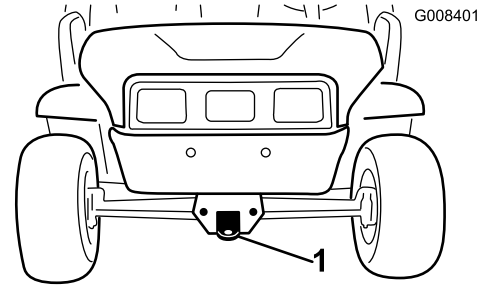
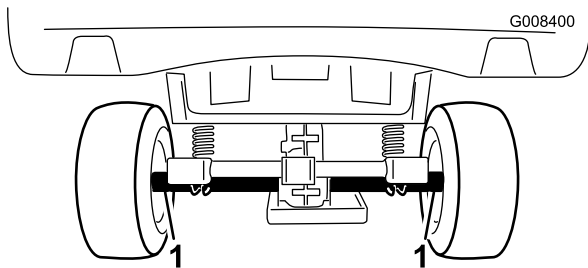

Figure 16
Figure 15
2. Affix a tow line to the tongue on the front of the frame (Figure 16).
For moving the vehicle long distances, a trailer should be used. Make sure that the vehicle is secured to the trailer. Refer to Figure 15 and Figure 16 for the location of the tie-down points.